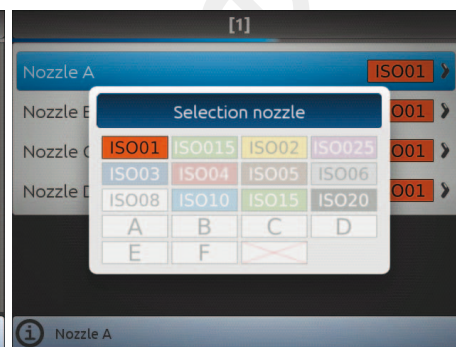

Fig. 69
- Select one of the suggested nozzles (Fig. 69): if a nozzle is NOT in use, disable it by selecting .